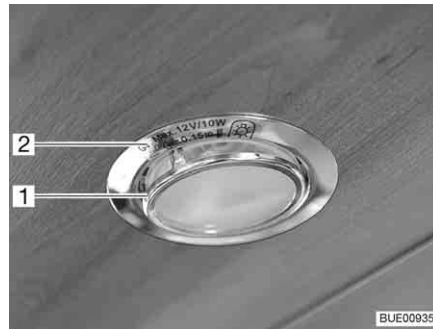

Fig. 268 Recessed halogen light (flat)
The recessed halogen light (Fig. 268,2) is installed flush with the panel.
- Use a suitable tool (e.g. a screwdriver) to lever out the internal cover ring with glass disk (Fig. 268,1) from the housing.